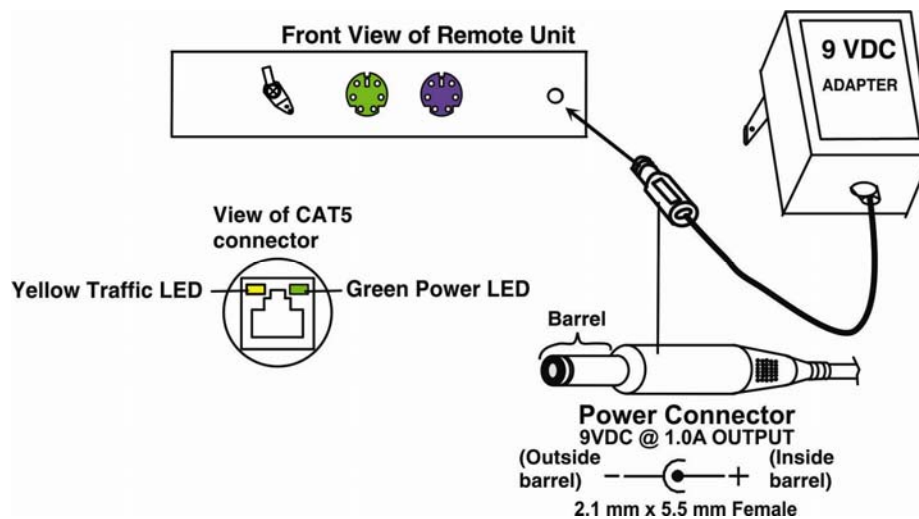

Figure 6- Connect the AC adapter to the Remote Unit
3. Connect the device(s) to the Remote Unit (see Fig. 6)(KVM models only).
2. Connect each AC adapter power connector to the 9VDC ports on the Remote and Local Units. Plug each AC adapter into a power outlet. The green LED on the RJ45 connector of both the Remote and Local Units should illuminate, indicating that a proper power connection has been made to them. (See Fig. 6.)
Note: The yellow LED on each RJ45 connector will illuminate anytime data traffic is passing between the Local and Remote Units, indicating proper CAT5 cable connection and communication. (See Fig. 6)